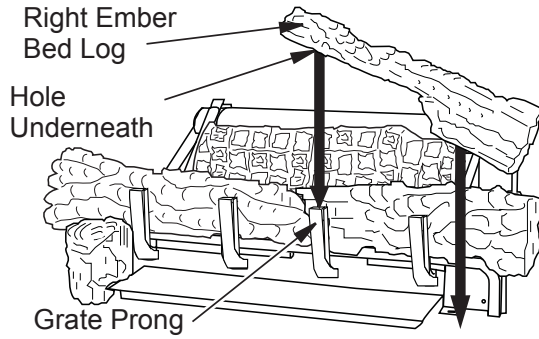

Figure 30 - Installing Right Ember Bed Log
4. The right ember bed log 24" & 30" (D-047) has a hole in the log that sets on the grate finger and the other end rests on the fireplace floor, place log as shown in **Figure 30, Page 20**. The right ember bed logs for 18" (D-072) has a groove on the side that sets on the ember bed pan and the back of the log needs to rest against the front of the base. Make sure the flame from the ember pan does not touch the ember bed log. The back side of this log needs to rest against the front of the base assembly, make sure the flame from the ember pan does not touch the ember bed log.